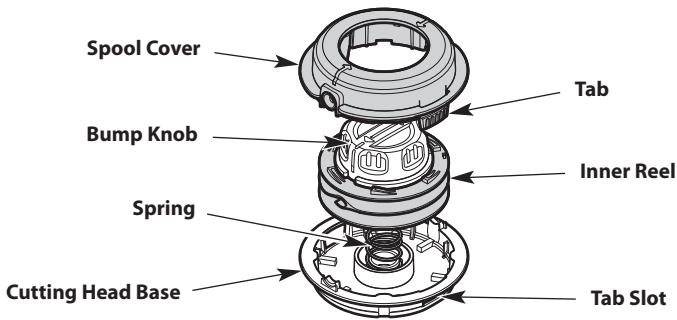

Fig. 26
- d. Remove the spool cover (Fig. 26). **DO NOT** remove the spring from the cutting head base (Fig. 26).
- e. Push the bump knob through the spool cover (Fig. 26). If the eyelets come off, reinsert the eyelets on the spool cover.
- NOTE:** **DO NOT** separate the bump knob from the inner reel (Fig. 26).
- g. Use a clean cloth to clean the inner reel, cutting head base and spool cover (Fig. 26).
- h. Insert the bump knob and inner reel into the spool cover (Fig. 26).
- i. Align the tabs on the spool cover with the tab slots on the cutting head base (Fig. 26). Push the spool cover onto the cutting head base until the tabs securely snap into place.